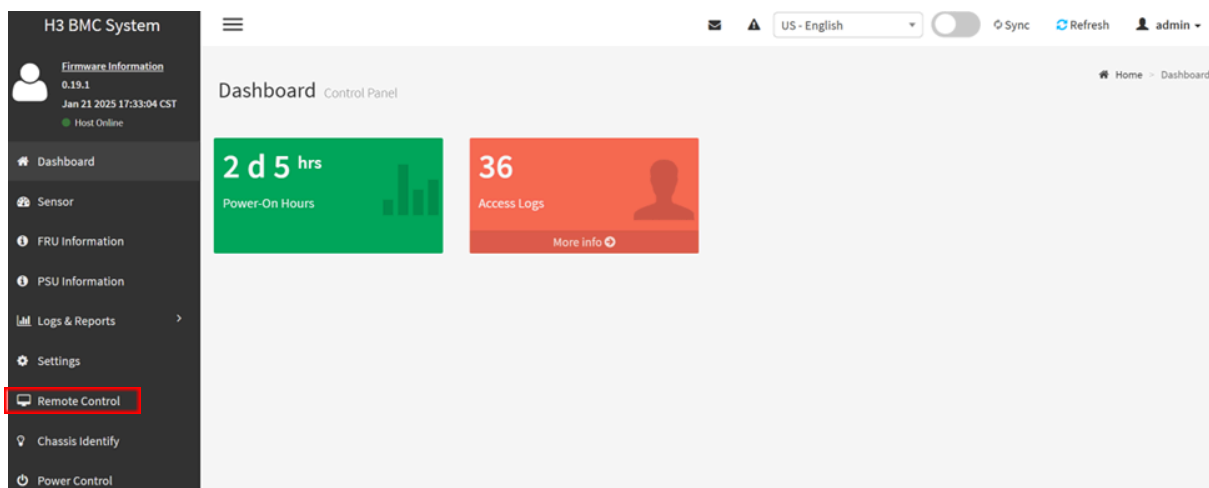

Figure 100. Locating the Remote Control Tab in the BMC GUI Navigation Bar
- A. After logging in, locate the Remote Control tab in the left navigation bar (refer to Figure 100).